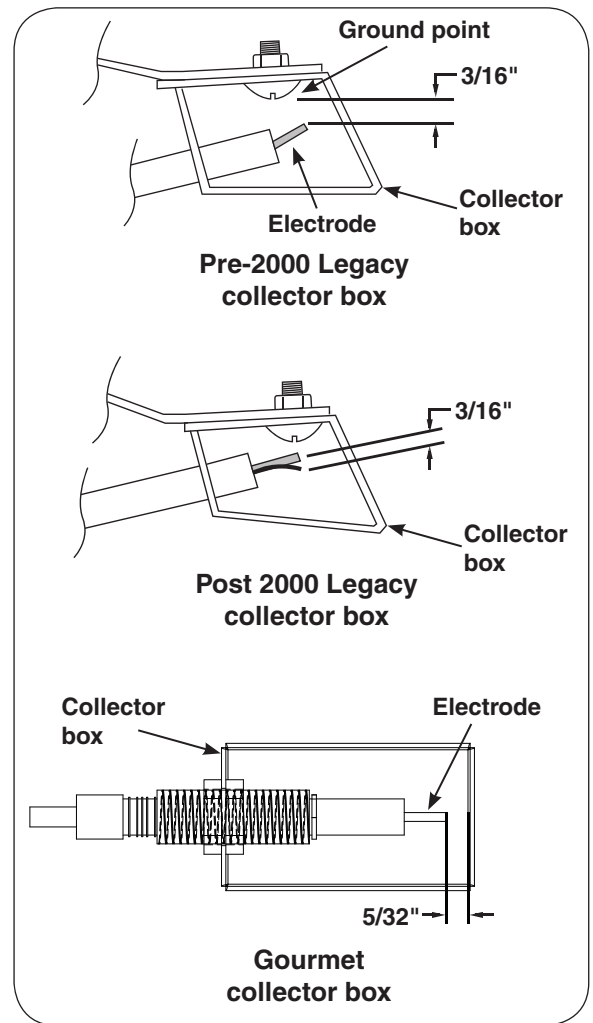

Fig. 2-1 Collector box
- Check the spark gap on the electrode. It should be $3/16$ " between the tip of the electrode wire and the sparking (ground) point (see Fig. 2-1). Make sure the electrode is secure in the collector box, and the collector box is secure to the frame. Consult your grill installation instructions for the position of the collector box.